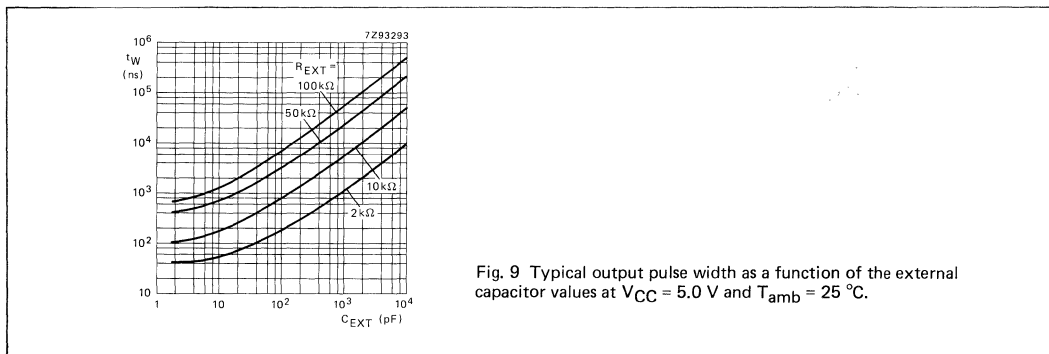

Fig. 9 Typical output pulse width as a function of the external capacitor values at  $V_{CC} = 5.0$  V and  $T_{amb} = 25^\circ\text{C}$ .
An internal connection from  $n\bar{R}_D$  to the input gates makes it possible to trigger the circuit by a positive-going signal at input  $n\bar{R}_D$  as shown in the function table. Figures 7 and 8 illustrate pulse control by retriggering and early reset. The basic output pulse width is essentially determined by the values of the external timing components  $R_{EXT}$  and  $C_{EXT}$ . For pulse widths, when  $C_{EXT} < 10\,000\text{ pF}$ , see Fig. 9.
1. For other  $R_{EXT}$  and  $C_{EXT}$  combinations see Fig. 9.